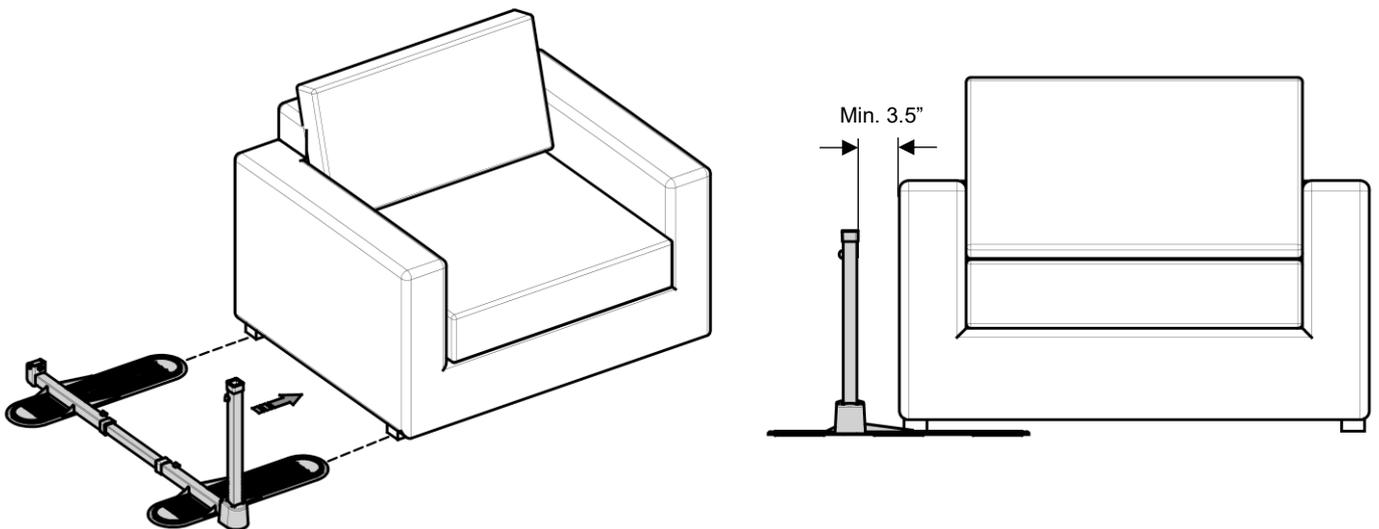

FIGURE 7
7. Place center of furniture feet on pads as shown in *FIGURE 7*. Allow at least 3.5 inch (25mm) of space between uprights and furniture arm. Pay special attention to the full motion of lift chairs and recliners so neither vertical support nor Handle comes into contact with furniture.